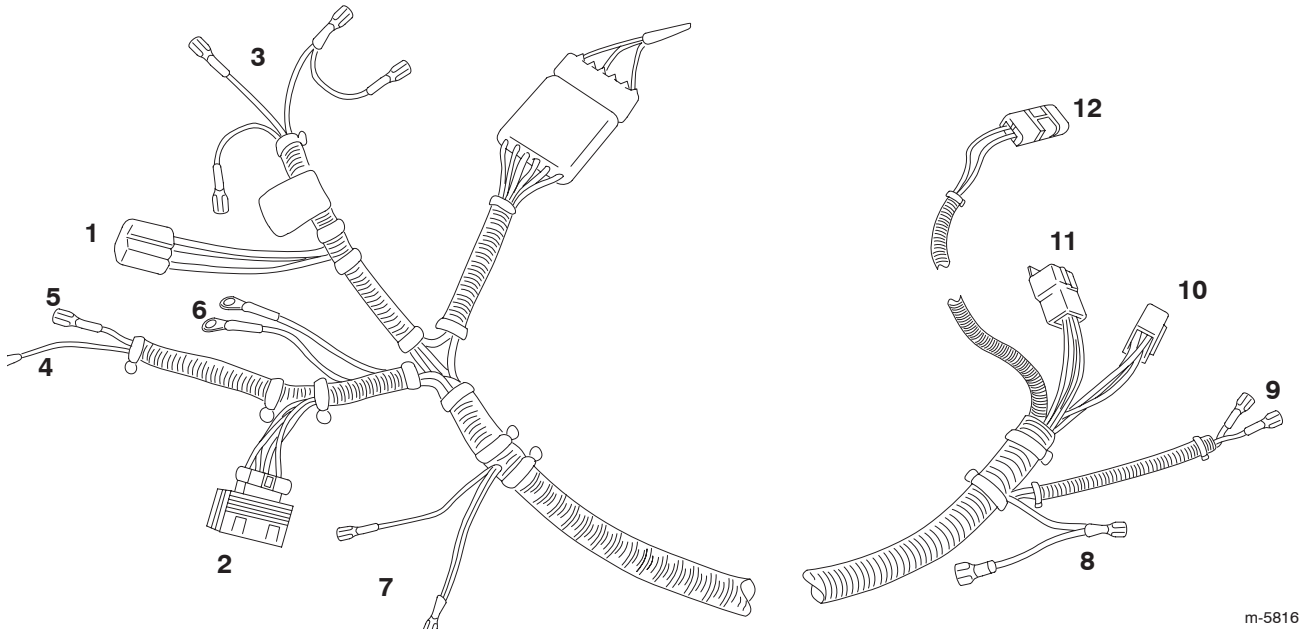

Figure 6
Figure 6 illustrates the dash wiring harness. Refer to it throughout this procedure.
1. Connect the flasher to the dash harness (Fig. 6 and 7).
2. Connect the relay to the dash harness (Fig. 6 and 8).
3. Connect the timer to the dash harness as illustrated in Figure 6 and 9.
(Fig. 6). If you are installing the horn kit, refer to the Horn Kit Installation Instructions for information on installing the horn button.
1. Attach the ground lug on the harness to the ground stud on the dash plate (Fig. 6 and 13).
2. Plug the power lead on the harness into the white connector on the fuse block (Fig. 6 and 13).
4. Insert the connector on the pink double wire from the dash harness into the number 5 slot on the light switch harness as shown in Figure 6 and 14.
5. Insert the connector on the purple wire from the dash harness into the number 6 slot on the light switch harness as shown in Figure 6 and 14.
- If you have 5 connection pins on the back of the ignition switch, remove the red or yellow wire and plug the violet wire (Fig. 6) on the harness into its spot.
- If you have 4 connection pins on the back of the ignition switch, remove the violet wire and plug the violet wire (Fig. 6) on the harness into its spot.
- If you have 5 connection pins on the back of the ignition switch, connect the violet wire (Fig. 6) on the harness to the violet pigtail wire on the back of the switch.
- If you have 4 connection pins on the back of the ignition switch, connect the violet wire (Fig. 6) on the harness to the violet wire on the back of the switch.
Note: If you are also installing or have already installed the Horn Kit, connect the horn leads of the dash harness to the horn (Fig. 6).
2. Connect the female connector on the dash harness (Fig. 6) to the empty male connector on the main harness.
3. Route the long end of the dash harness with the terminal connector (Fig. 6) along the vehicle support and through the hole you drilled in the floor of the vehicle.